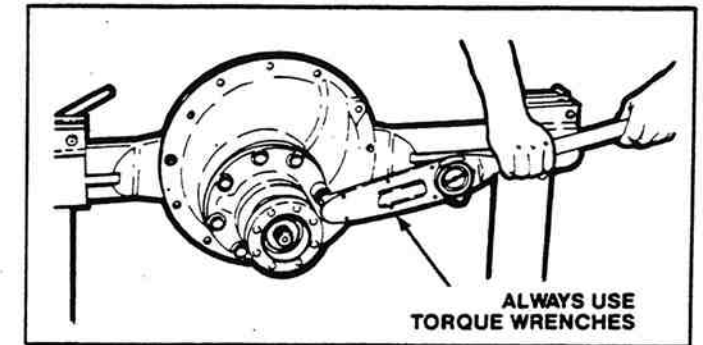

Figure 2-34. Reinstalling Fasteners.
When installing the fasteners, torque to the required value for that size fastener. See Torque Value Chart later in this section. Always use a torque wrench (Figure 2-34).
1. Apply the minimum amount of torque required for that size fastener. See the torque chart later in this section. The fastener must not rotate (Figure 2-34).